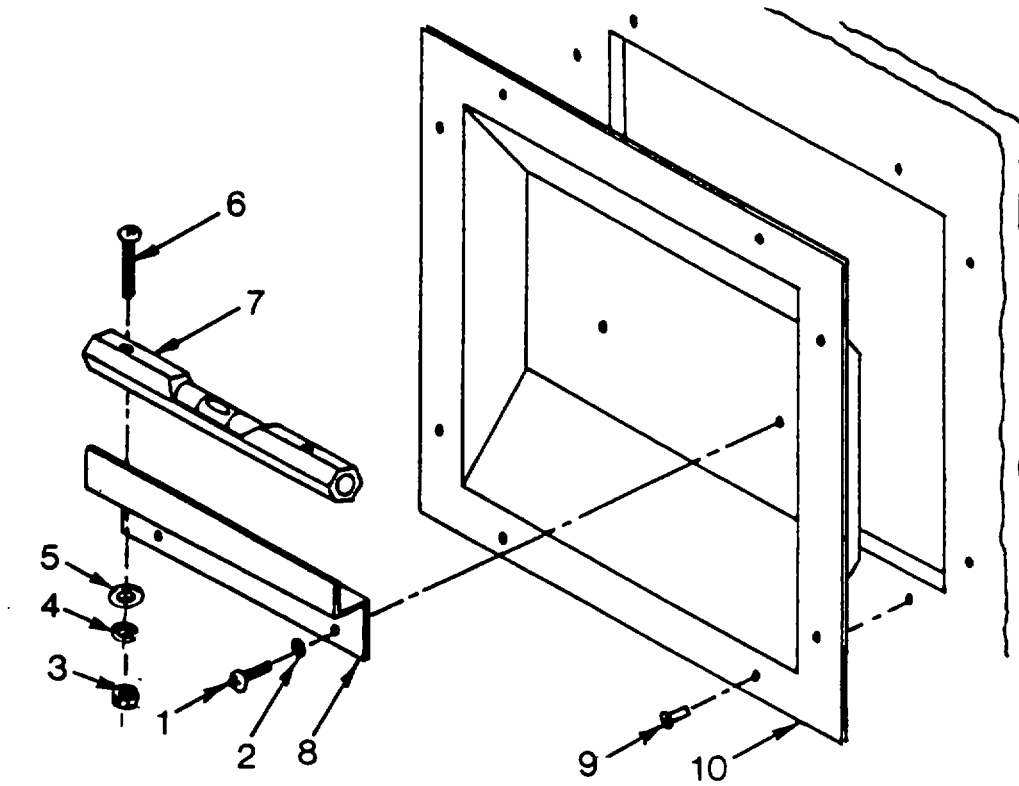

Figure 4-25. Level Indicator Assembly
b. Replace. (See Figure 4-25.)
(1) Remove screws (1), and lockwashers (2) from receptacle frame. Removal procedures are identical for both assemblies.
(2) Remove nuts (3), lockwashers (4), flat washers (5), screws (6), and level (7) from bracket (8).
(3) Remove rivets (9) from receptacle frame (10) by drilling or chiseling off heads.
(4) Remove RTV sealant and receptacle frame (10) from shelter wall.
b. Replace. - Continued. (See Figure 4-25.)
(5) Install receptacle frame (10) to shelter wall and secure with rivets (9). Installation procedures are identical for both assemblies. Seal between receptacle frame and shelter wall with RTV sealant (item 2, Appendix E).
(6) Install level (7), screws (6), flat washers (5), lockwashers (4), and nuts (3) to bracket (8).
(7) Install level bracket (8), screws (1), and lockwashers (2) to receptacle frame (10).
c. Repair. (See Figure 4-25.)